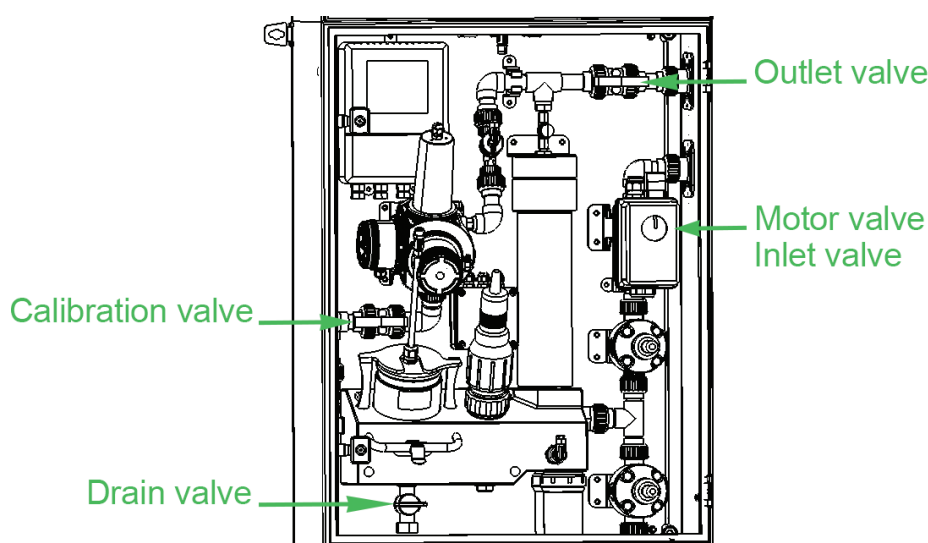

Figure 7.4: Valves
1. Select “Local” and “Stopped” on the HMI. Close “Outlet” and “Inlet” valves. Open the “Calibration” valve. See Figure 7.4.